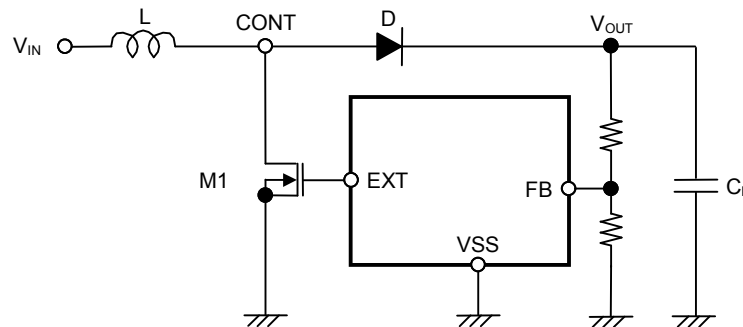

Figure 10 Step-up Switching Regulator Circuit for Basic Equations
The following are basic equations [(1) through (7)] of the step-up switching regulator (refer to **Figure 10**).